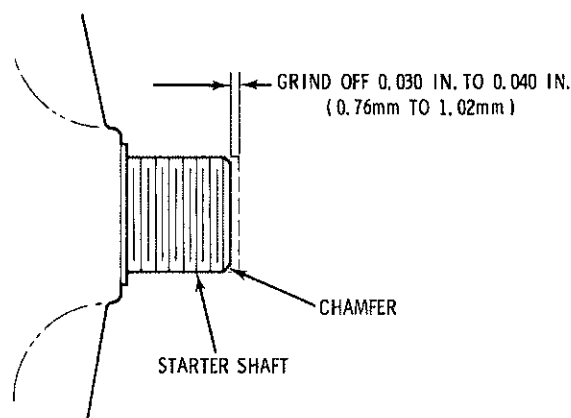

Figure VII-9
2. File 0.030-inch to 0.040-inch (0.76 to 1.02 mm) off the end of the starter shaft and re-chamfer the shaft for smooth thread engagement. (Figure VII-9)